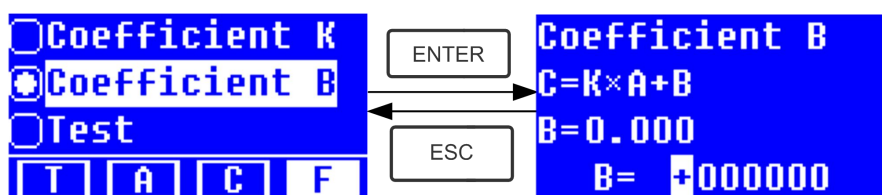

Fig.4-19
- ★ Input the value of **B** in the same way(Fig. 4-19)